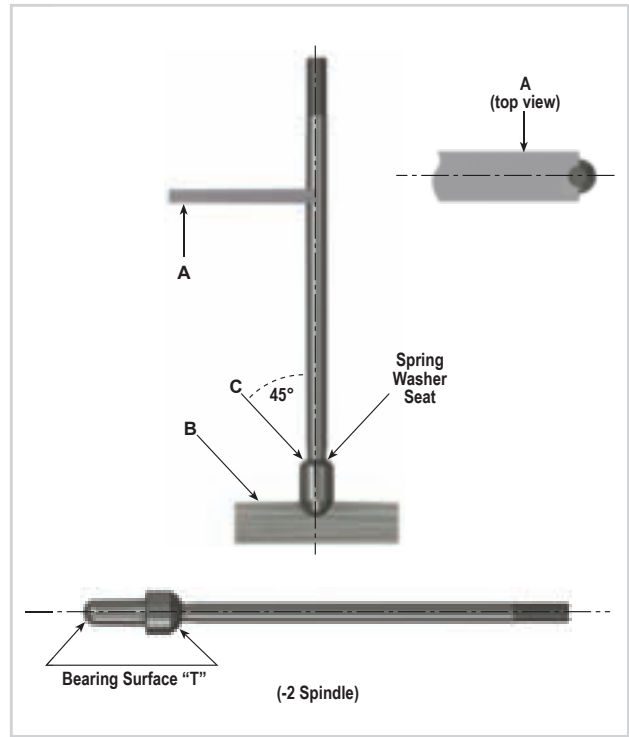

Figure 14 – V-Block Support Set Up
- (i) The ball-pointed spindles should be placed in a piece of material, B, that has been recessed to permit free rotation of the spindle (see Figure 14).